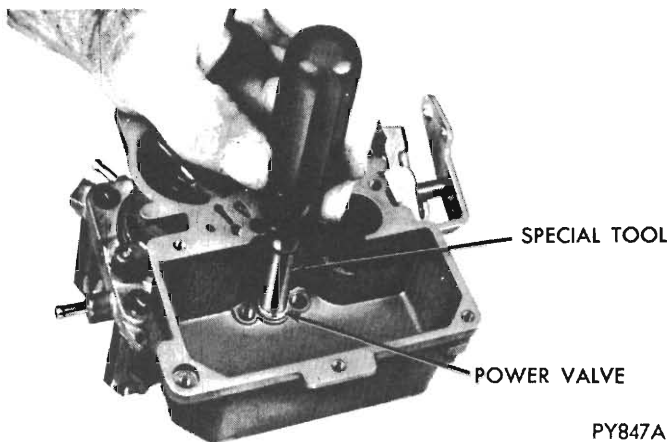

Fig. 14 – Removing or installing power valve (using Tool No. E14C30G)
(19) Using Tool E14C30G, remove power valve assembly (Fig. 14).
(6) Install power valve, using Tool E14C30G (Fig. 14). Tighten securely.